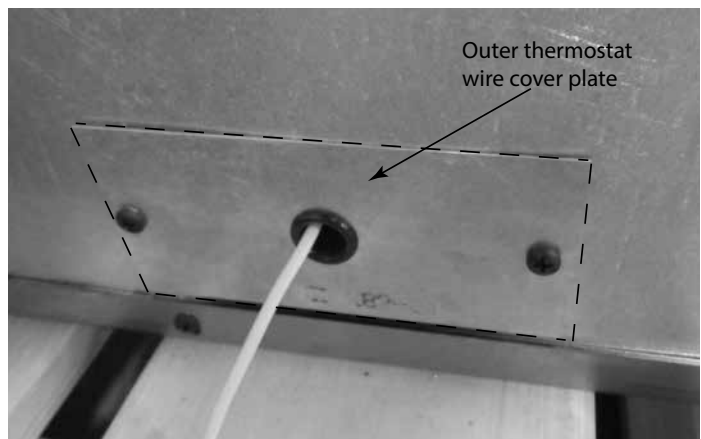

Figure 3.9 Thermostat wire installed through outer cover plate
- Reinstall outer thermostat cover plate. See Figure 3.9.